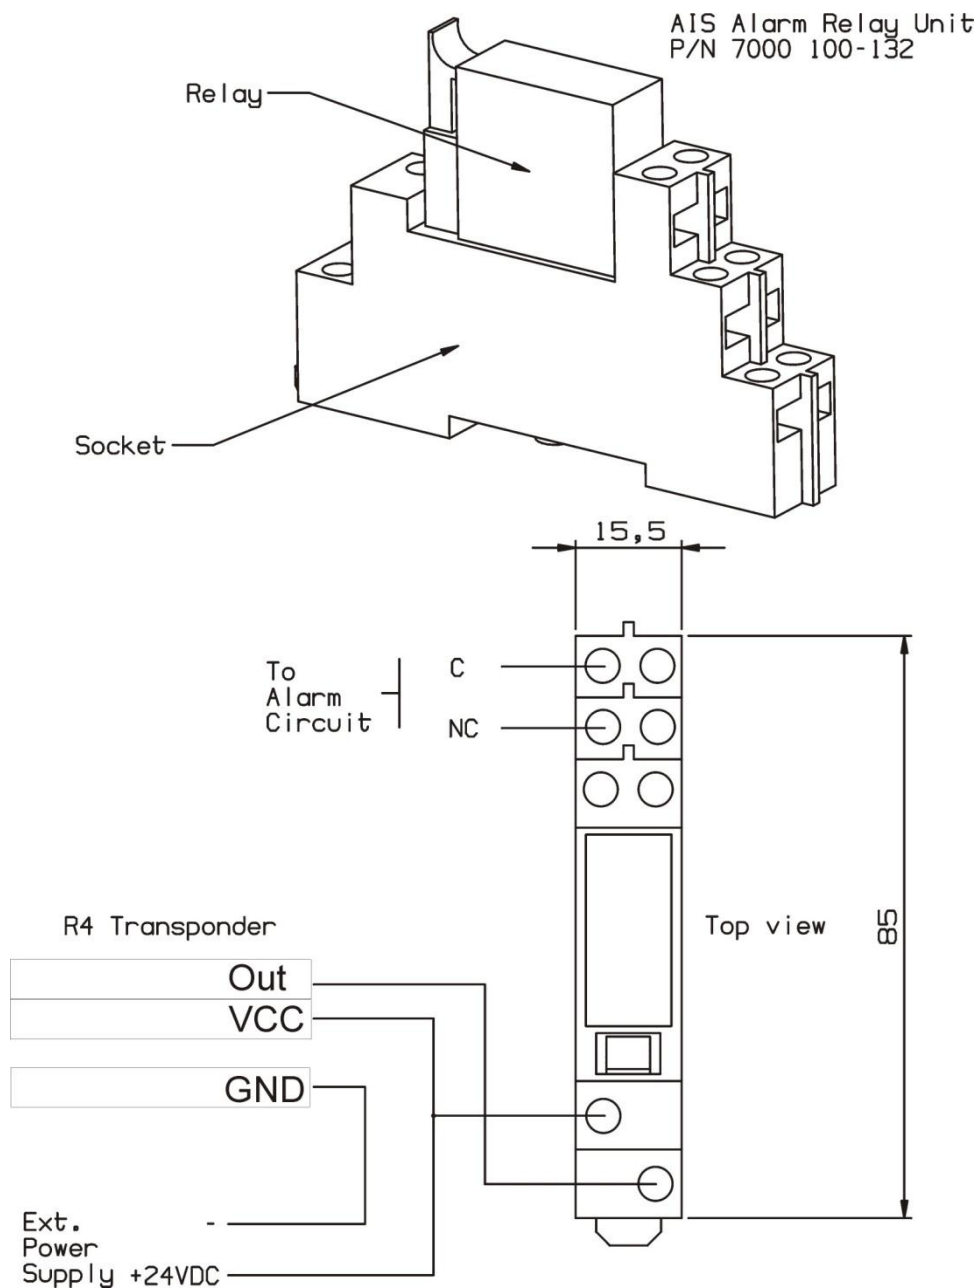

Figure 4-14: Alarm Relay Wiring
Alternatively, the ship's BIIT alarm system may use the alarm messages output on the AIS Presentation Interface (PI) provided the alarm system is AIS compatible. The AIS Alarm Relay is either mounted on a DIN mounting rail or direct on the wall. Wire connections according to Figure 4-14.